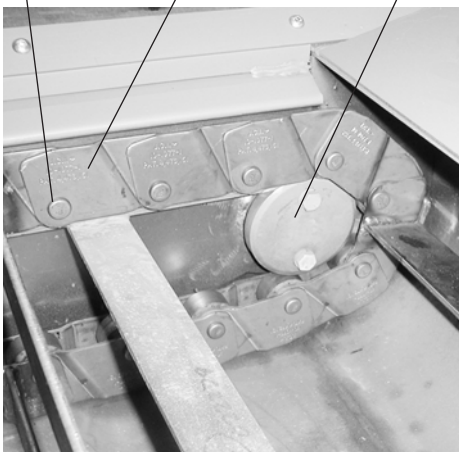

Figure 12. Tail Hub
4. Check the tail hubs (or sprockets on larger units) for wear. (See Figure 12.) Normally, this is not a problem and need only be performed when the conveyor is being completely disassembled for other reasons.